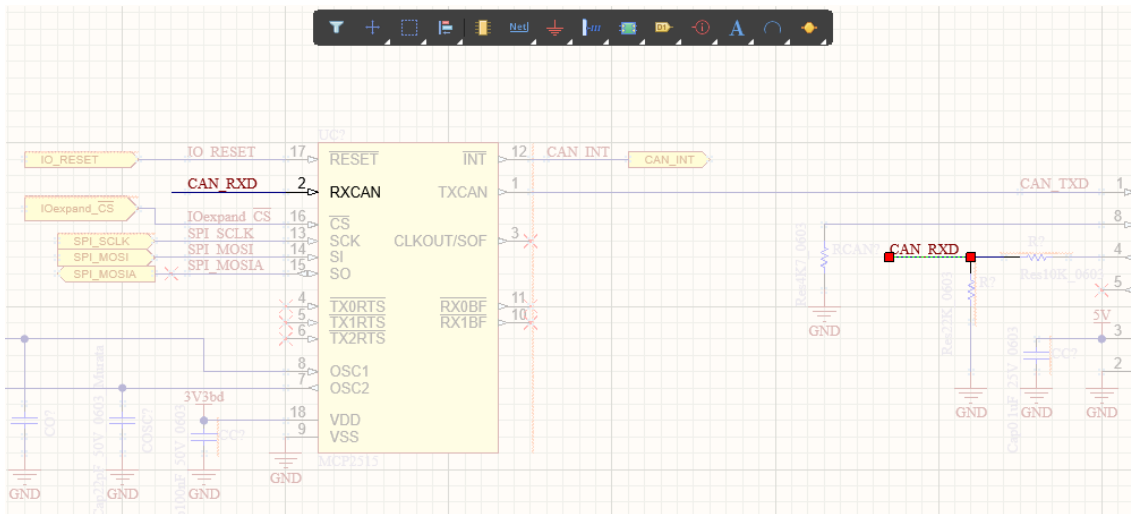

Figure 30. Active Masking to see a logical connection
45. To see the logical connection press and hold **ALT** key and select net label CAN\_RXD with mouse left click, this highlights the net labels showing connections within the schematic, as shown Figure 30.